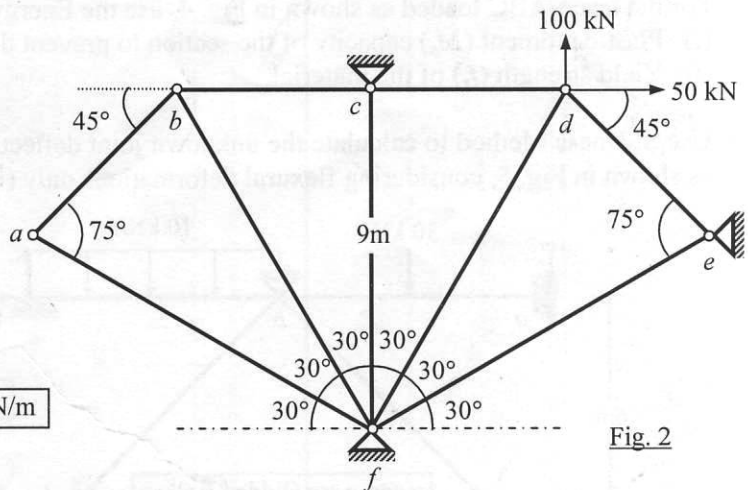

Fig. 2
2. Ignore the zero-force members and formulate the stiffness matrix, load vector and write down the boundary conditions of the truss *abcdef* shown in Fig. 2.
3. If truss *abcdef* shown in Fig. 2 is supported at joint *e* on a horizontal spring of stiffness $k_h = 2500 \text{ kN/m}$ and vertical spring of stiffness $k_v = 5000 \text{ kN/m}$ (instead of the hinge support shown at joint *e*), formulate its stiffness matrix and load vector, ignoring the zero-force members.